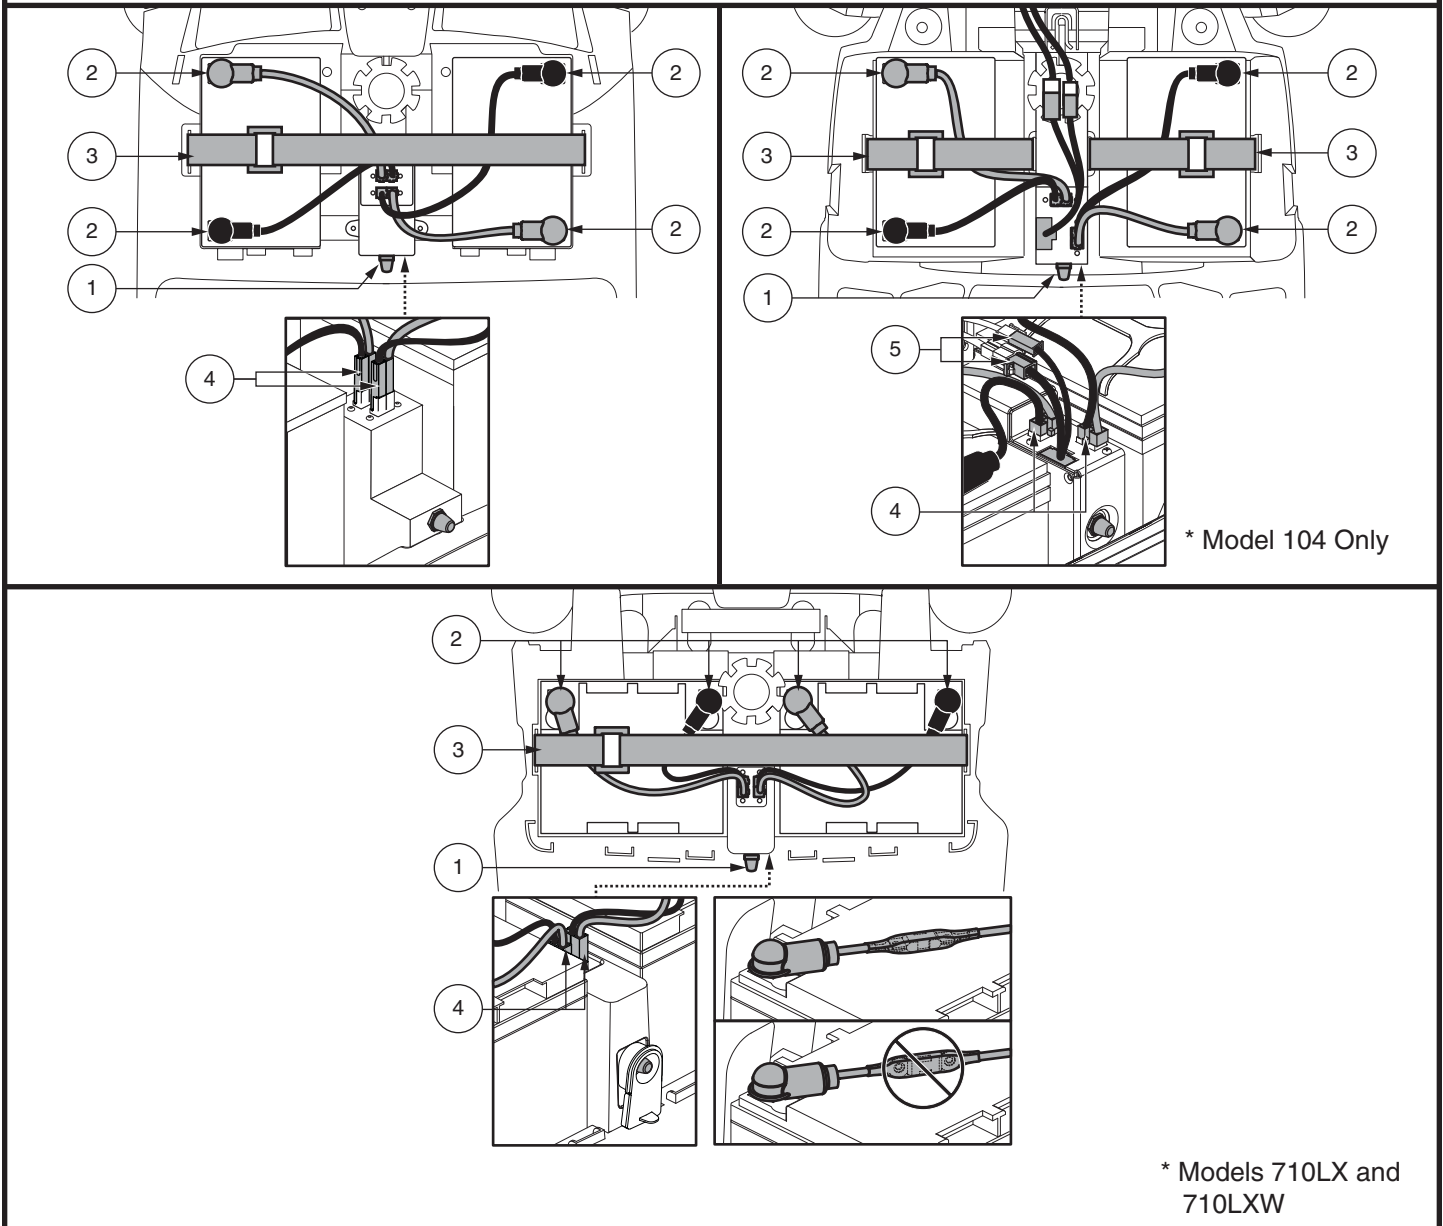

Figure 11. Battery Removal/Installation Terminals and Connections
2. Disconnect the battery tie-down strap. **See figure 11.**
3. Disconnect the battery harnesses by depressing the tabs on the battery harness connectors and pulling them straight up. **See figure 11.**
6. Place a new battery in each battery well. For 710LX and 710LXW models, face the battery terminals of each battery rearward. For all other models, face the battery terminals of each battery opposite each other and toward the outer sides of the scooter. **See figure 11.**